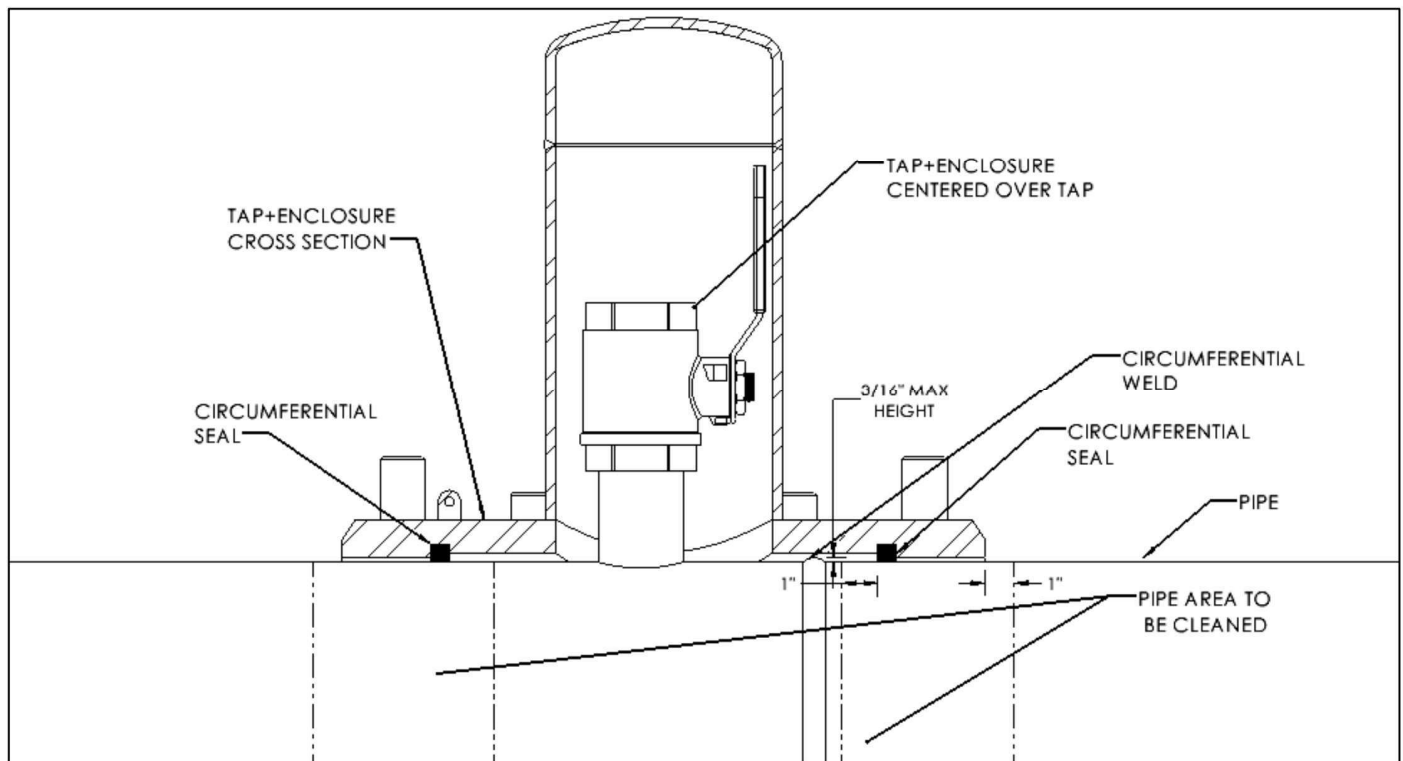

Figure 1
2. Remove all coatings, rust, and scale from the pipe surface where the circumferential seals of the PLIDCO Split+Sleeve will contact the pipe (see Figure 1). A near-white finish, as noted in SSPC-SP10 / NACE No.2, is preferred 1" (25mm) before and after the seal. The cleaner the pipe surface, the more positive the seal. Sandblasted surfaces should be buffed smooth.
3. Where the circumferential seals will contact any longitudinal welds, circumferential welds, spiral pipe welds, or other protrusions, the welds in this vicinity must be ground flush with the outside diameter of the pipe. The area should extend 1 inch (25mm) inside of the seals and 1 inch (25mm) beyond the end of the fitting as shown in Figure 1 designated, "*Pipe area to be cleaned*".
4. Circumferential & longitudinal pipe welds between the circumferential seals do not need to be ground flush as long as the weld height does not exceed 3/16 inch (4.7 mm) (see Figure 1).